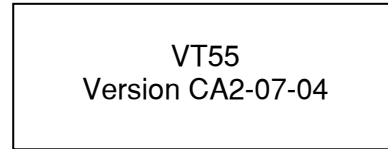

Fig. 2
- The software version as Fig. 2.